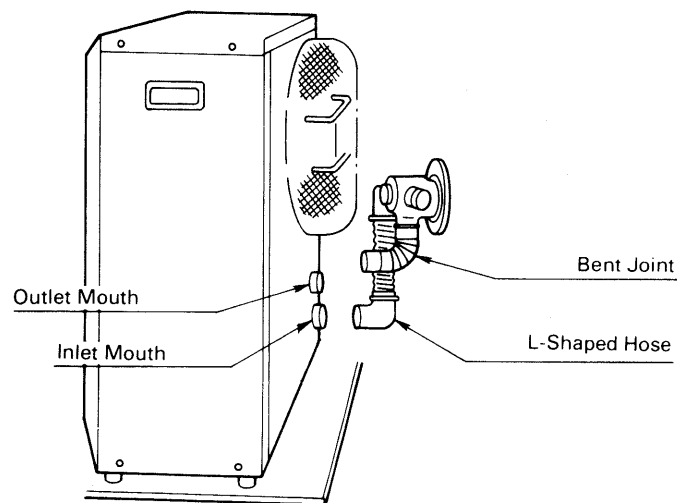

Fig. 11
7. Move the heater into position. Connect the bent joint to the exhaust outlet mouth (upper opening) and attach the L-shaped hose to the intake inlet mouth. Make sure all connections are tight (See Fig. 11).